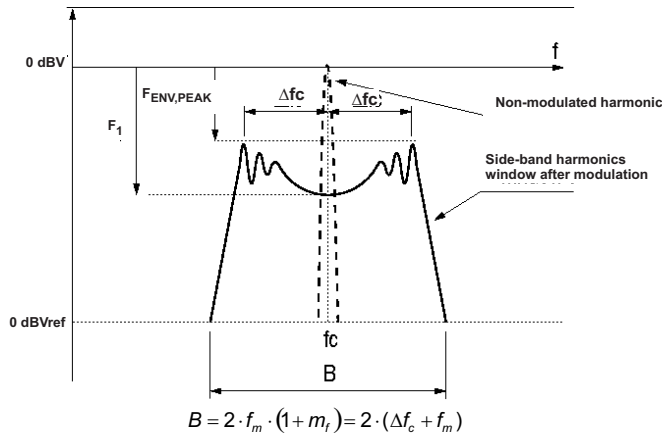
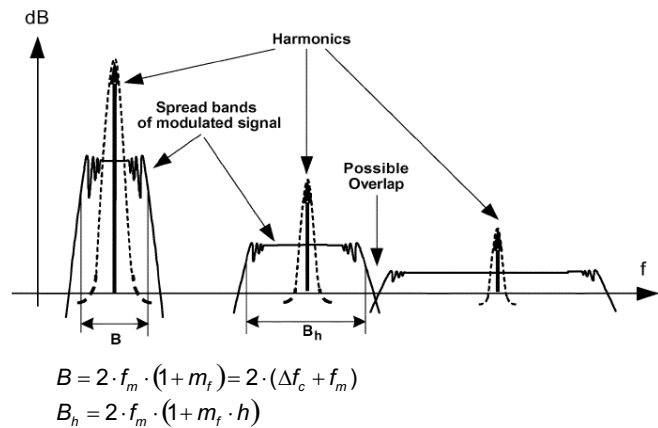

Figure 21. Spectrum Of A Frequency Modulated Sin. Wave With Sinusoidal Variation In Time
Figure 22. Spread Bands Of Harmonics In Modulated Square Signals ⁽¹⁾
(1) Spectrum illustrations and formulae (Figure 21 and Figure 22) copyright *IEEE TRANSACTIONS ON ELECTROMAGNETIC COMPATIBILITY*, VOL. 47, NO.3, AUGUST 2005. See References Section for full citation.